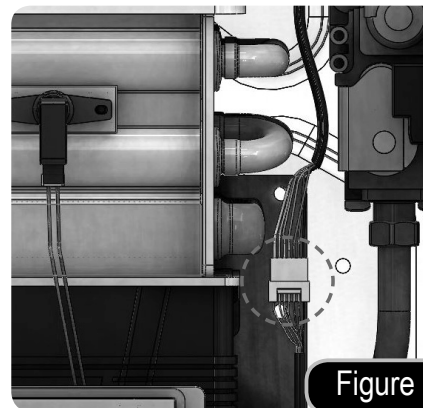

Figure 2
3. Remove AGM wire connector. See Figure 2.